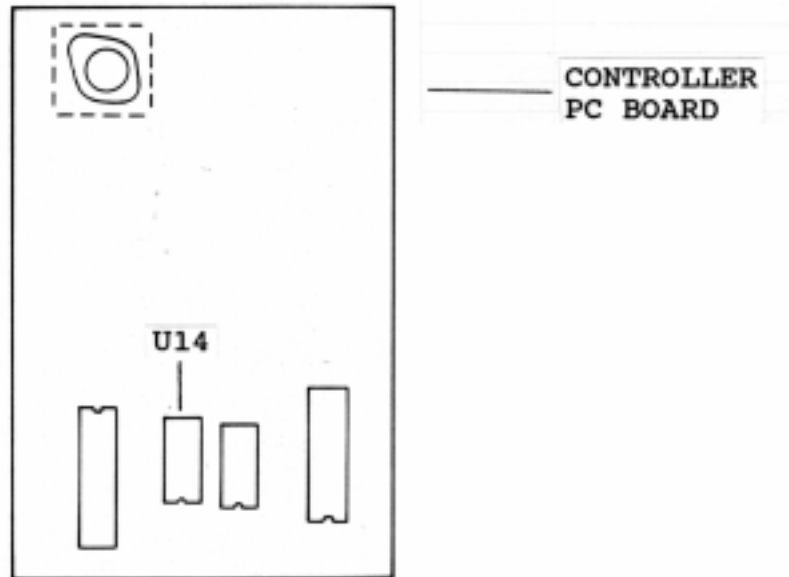

FIGURE 2
2. REMOVING AND REPLACING THE IC ASSEMBLY (See Figure 2)
- . See Figure 2 for proper orientation of the IC.